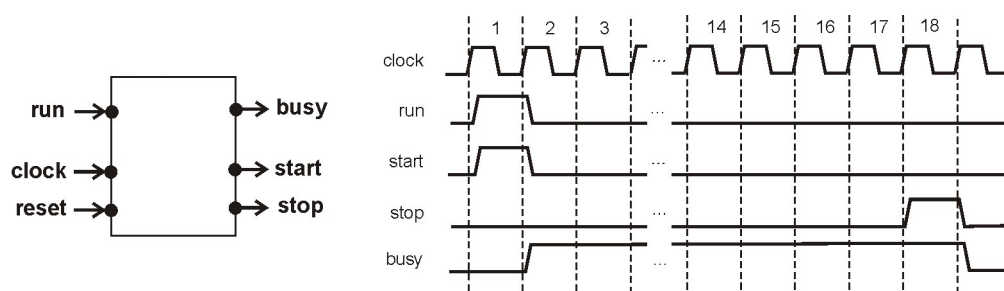

Figure 2 - Timing diagram for the sequential controller.
5.3 Build a sequential controller to generate the signals **start** and **stop**, according to the number of bit of the input operand specified by the parameter **NBITSIN**. The sequential controller must receive a single clock pulse in input **run** to start one calculation and generate the 3 output signals **start**, **stop** and **busy**, implementing the timing diagram shown in figure 2 (this is for a 16-bit output result)